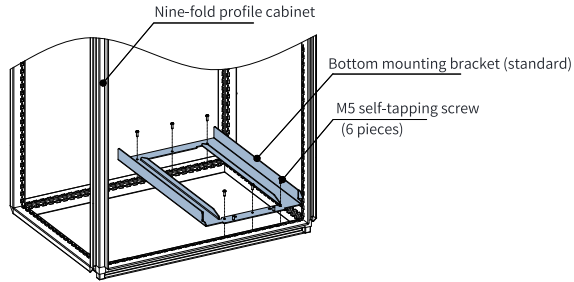

Figure 1-10 Installing the bottom mounting bracket
2. Fix the bottom mounting bracket in the nine-fold profile cabinet. Use six M5 self-tapping screws to fix the mounting bracket onto the rack base of the nine-fold profile cabinet, as shown in "Figure 1-10" on page 22.